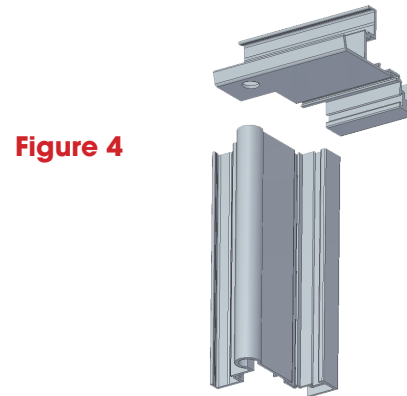

Figure 4
6. Install frame header next. Set header at top of opening. Be certain to push header tight to hinge rail. Close door and check for even clearance between top of door leaf and header (adequate clearance is approximately 3/32"). **Do not fasten in place until STEP 7 is complete. See Fig. 4.**